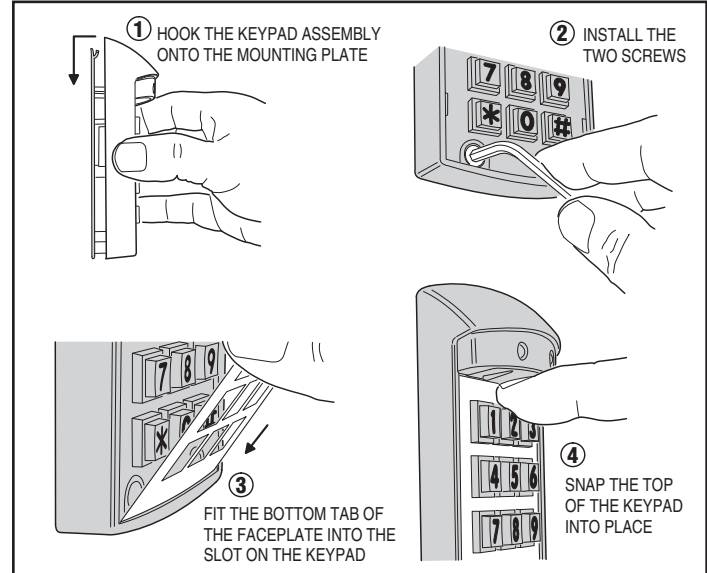

Figure 5. Connecting the Keypad to the Mounting Plate
- ❑ Hook the keypad assembly onto the mounting plate tab (see Figure 5).